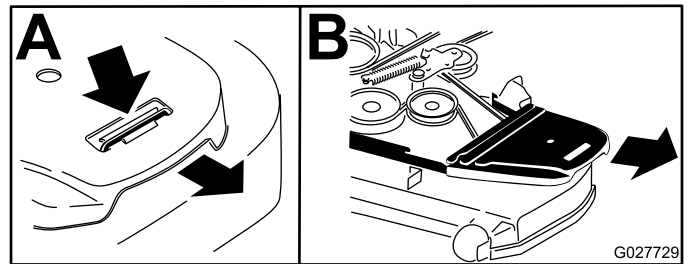

Figure 92
4. Remove the belt covers (Figure 92).